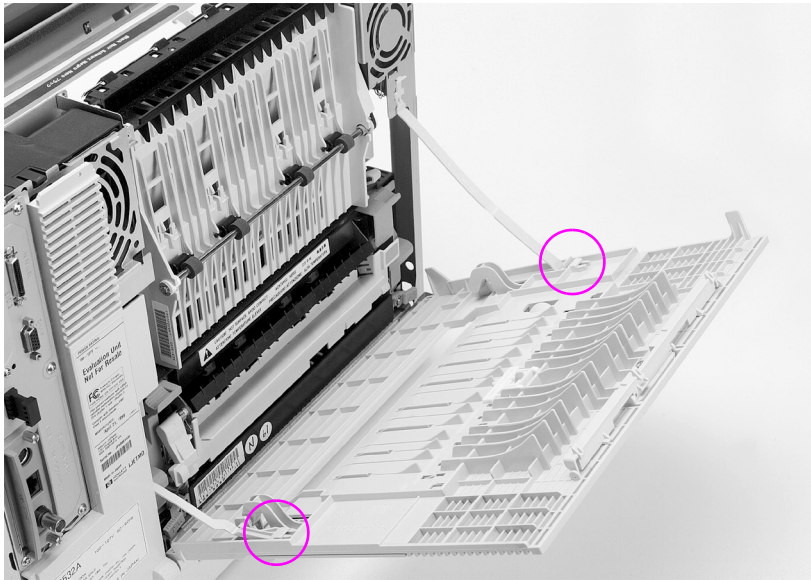

Figure 6-5
- 2 Push in the retaining strap connectors to release the two plastic retaining straps attached to the inside of the rear door as shown in Figure 6-5.